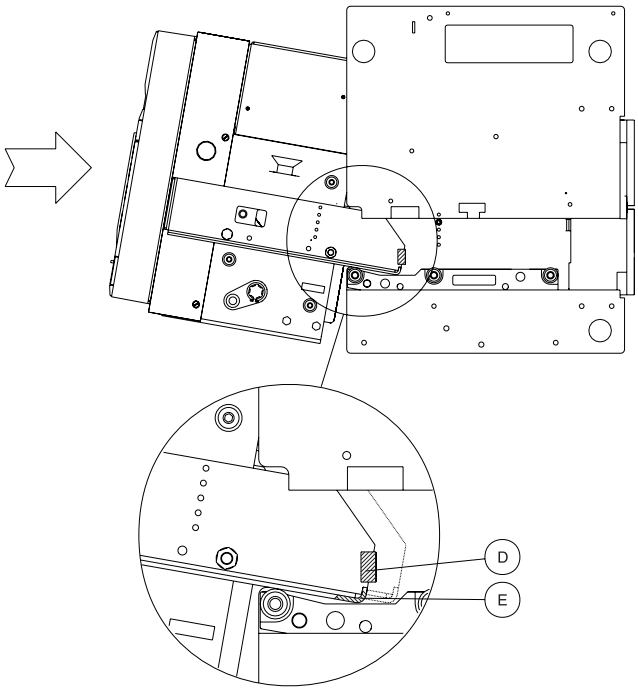

Figure 29.
Lift the moving part as shown in the paragraph (3) and insert it in the fixed part guide, tilting it as shown in Figure 29.